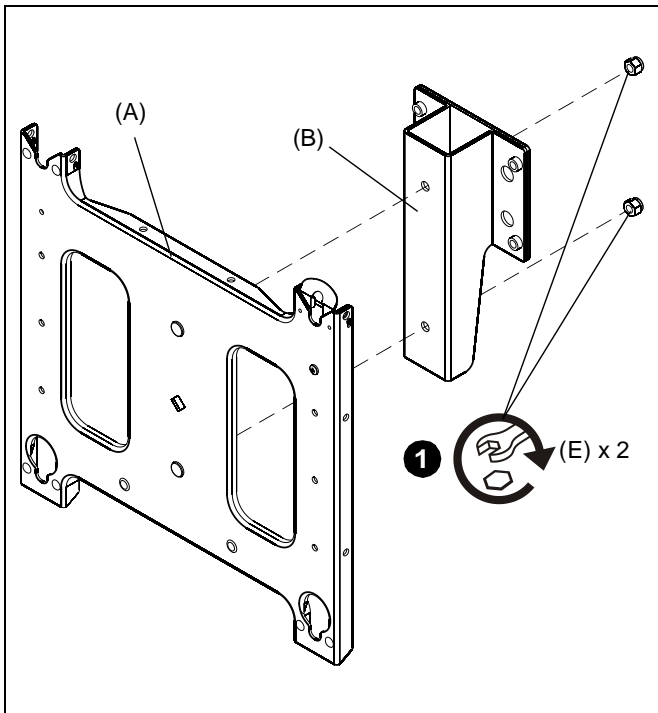

Figure 1
1. Attach faceplate (A) to bracket (B) using two 3/8-16 Nylock lock nuts (E). (See Figure 1)
1. Attach first faceplate (A) to bracket (B) using two 3/8-16 Nylock lock nuts (E). (See Figure 1)